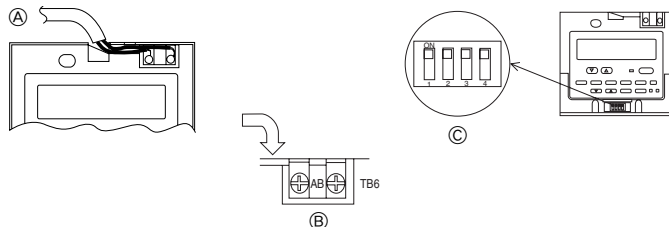

Fig. 7-7
2) Connecting procedures (Fig. 7-7)
① Connect the remote controller cord to the terminal block.